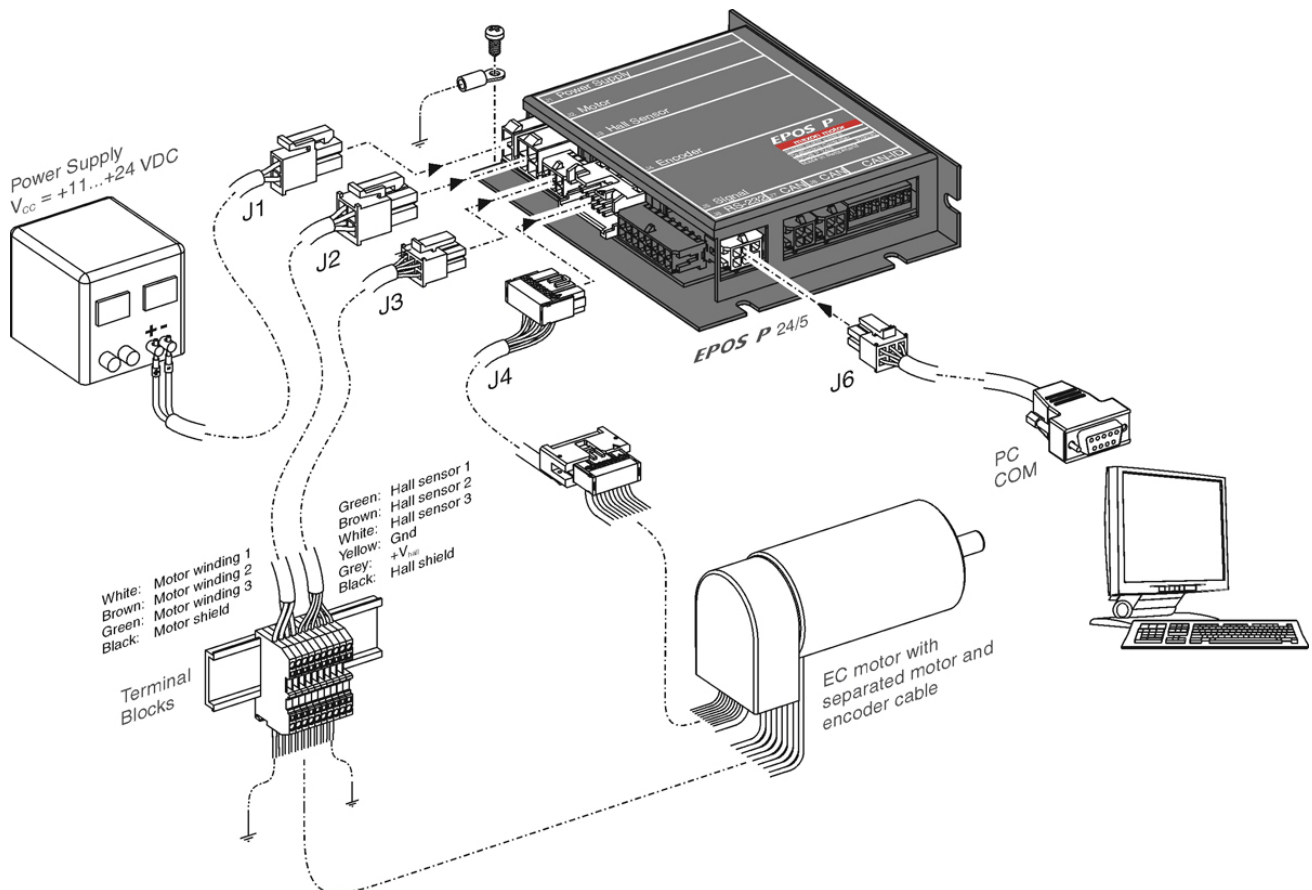

Figure 3-4 Minimum Wiring: maxon EC motor
- 2) Connect maxon cable assemblies (→ Table 3-4 and Figure 3-4).